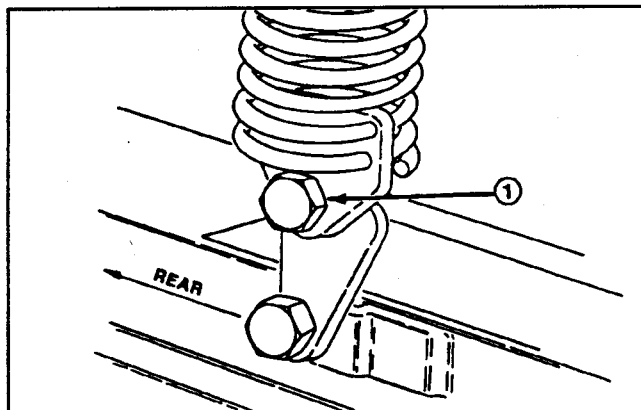

Figure 27
3. Assemble the parts as shown in the Parts Catalog and Figures 27 and 28. When installing a spring, thread it through the holes in the spring ends until the spring passes through all four holes.
**IMPORTANT:** The top hole in the knee link bracket(s) must be towards the rear (Fig. 27). If installed incorrectly, the extension spring could fold incorrectly, going under the traction frame when the deck is raised all the way.